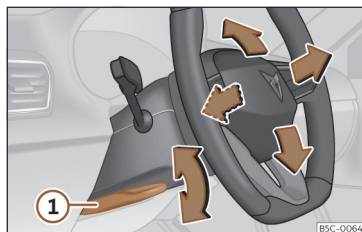

Fig. 83 Lever in the lower left side of the steering column.
• Pull lever >>> **Fig. 83** ① down, move the steering wheel to the desired position and lift the lever back up until it locks.
• After adjusting the steering column, push lever >>> **Fig. 83** ① firmly upwards so that the steering wheel does not accidentally change position while driving.